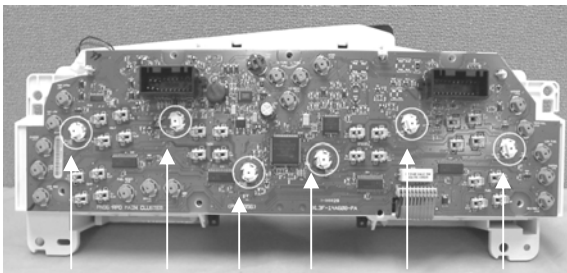

Figure 9 (2000 model year shown)
10. Remove the **six white lamps** on the backside of the circuit board by turning the lamps ¼ turn counter-clockwise with a pair of pliers. Do not remove the gray, black, or red lamp sockets (see figure 9 - Circuit board may vary depending on model year).